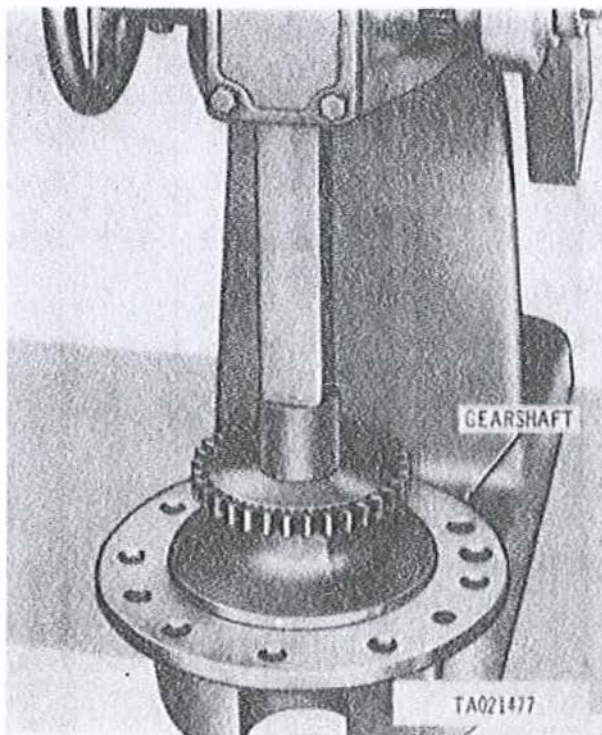
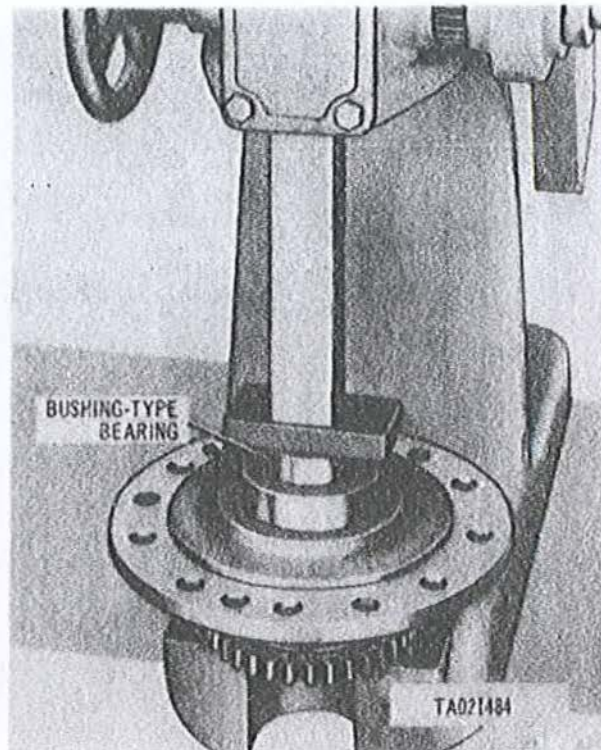

Figure 3-179. Pressing bushing-type bearing from transmission drive gearshaft, model AVDS-1790-2C and AVDS-1790-2D engines.
Figure 3-180. Pressing bushing-type bearing into transmission drive gearshaft, model AVDS-1790-2C and AVDS-1790-2D engines.
d. *Transmission Drive Gearshaft Bushing-Type Bearing.* When the gearshaft bushing-type bearing needs replacement, use a suitable arbor and an arbor press to remove bushing-type bearing as shown in figure 3-179. Press new bushing-type bearing into gearshaft using arbor press as shown in figure 3-180. Ream the bushing-type bearing from 1.3775 to 1.3780 inch after installation. When oversize dowel pins have been installed in the crankshaft, the transmission drive gearshaft dowel pin holes must be reamed in the proper oversize dimension.